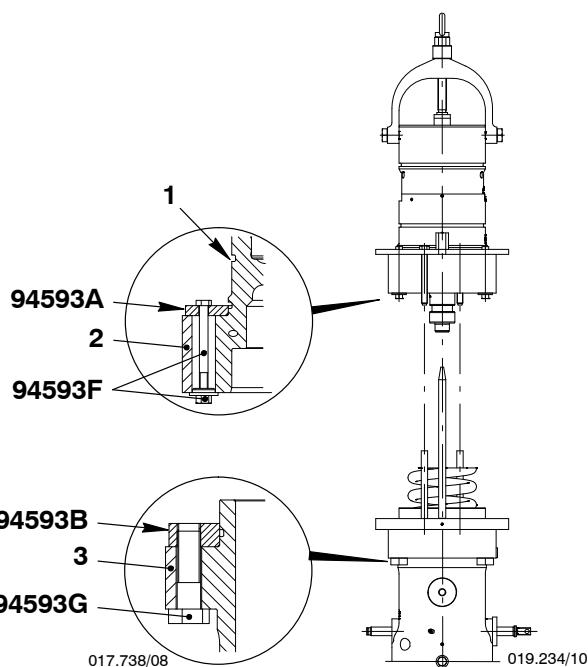

Fig. 27
- 1) Remove the O-rings (1) from the bottom housing (2, Fig. 27).
- 2) Attach the device 94551 on the bottom housing (2).
- 4) Use the screws with special nuts 94593F and attach the ring 94593A to the bottom housing (2).
- 6) Use the screws 94593G and attach the 2 - part ring 94593B with the step rods 94593E to the top housing (3).
- 7) Oil the guide piston (4) and attach it to the bottom housing (2).
- 8) Attach the lower spring carrier (5) with the pump plunger (6) to the guide piston (4).
- 9) Put the retaining rings (7) and the circlips (8).
- 10) Put the connection pins (9) with the O-rings (10).
- 11) Tighten the connection pins (9) crosswise in four steps to the torque **80 Nm**.